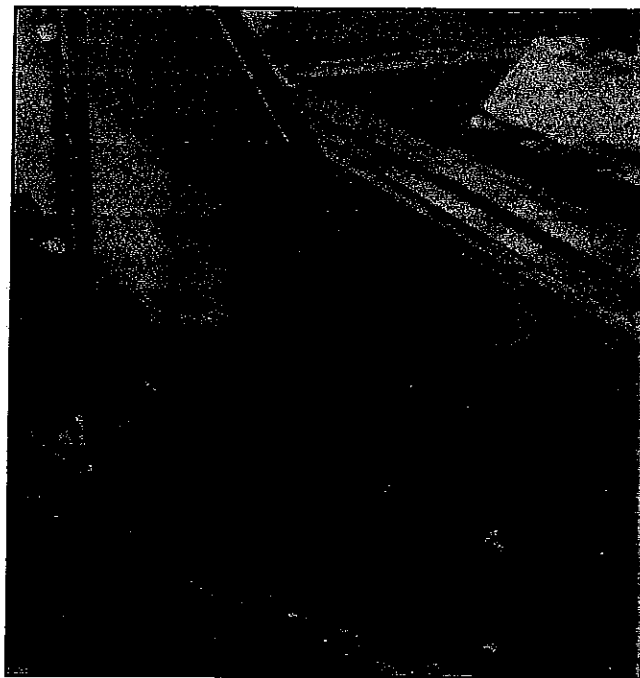

FIGURE 50 - LOWER RETAINER INSTALLATION
Install the bottom of the retainer first with four (4) 1/2" x 1-1/4" hex bolts, four (4) 1/2" lock washers, two (2) 1/2" flat washers and four (4) 1/2" nuts provided. Make sure the sides of the retainer are outside the attaching panels as shown (see Figure 50).